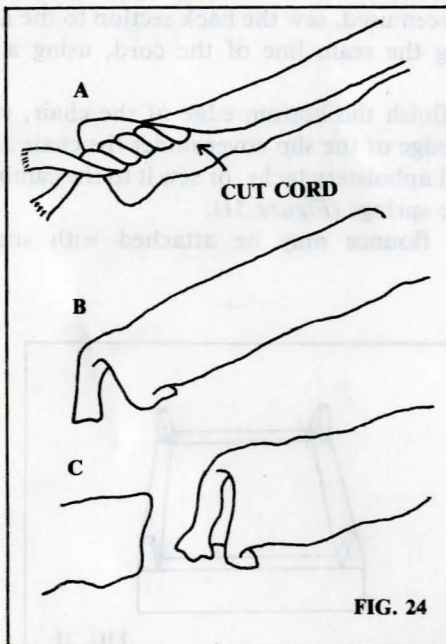

FIG. 24
**To Join Cord End**—Let the cord lap 1" and snip. Rip back one end of cording 1". Cut out 1" of cording and turn 1/2" raw edge under on this end. Lap 1/2" over the other end of the cord, so the cords just meet. Stitch. Repeat for the bottom cover (Figure 24).